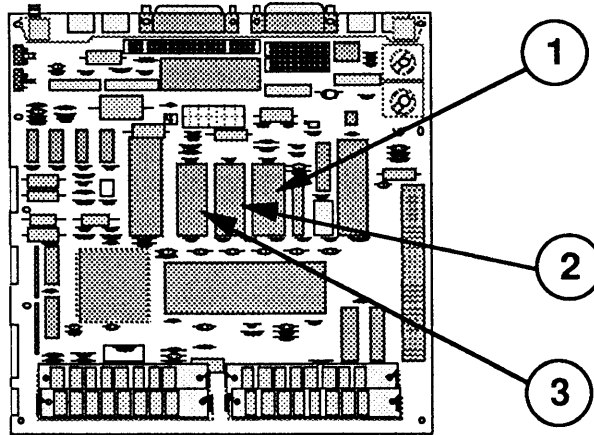

FIGURE 20
7. Using the IC extractor, remove the IWM chip (Figure 20, #1) and the two ROM chips (Figure 20, #2 and #3) from the logic board.